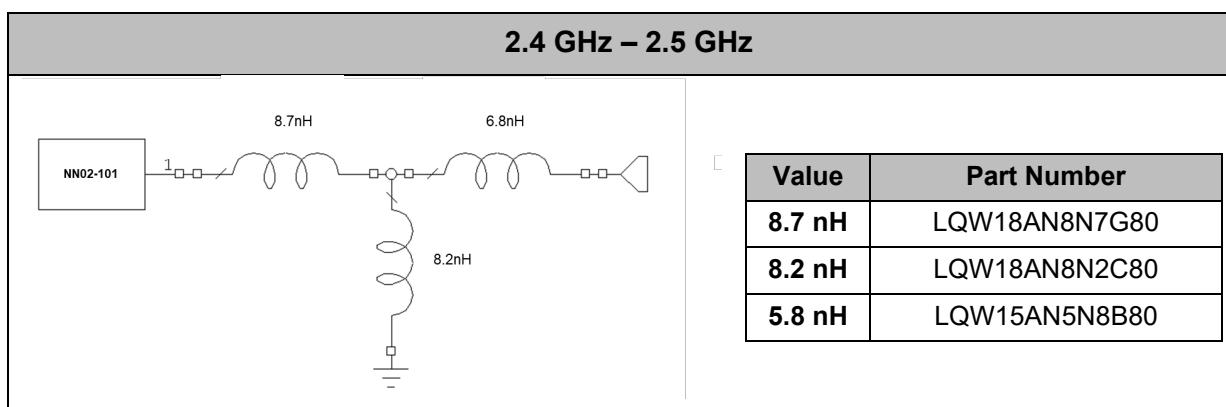

Figure 2 – Matching network implemented on the Evaluation Board (Figure 1) for covering Bluetooth from 2.4GHz to 2.5GHz.
For an optimal result, the use of high-quality factor (Q) and tight tolerance components is highly recommended (e.g., Murata components with part numbers as shown in Figure 2). The antenna performance is always conditioned by its operating environment meaning that differences in the device, including differences in printed circuit board sizes, components near the antenna, displays, batteries, covers, connectors, etc. affect the antenna performance. Accordingly, placing pads compatible with 0402 and 0603 SMD components for a matching network as close as possible to the feeding point of the antenna element is highly recommendable. It is also recommendable to do this in the ground plane area, not in the clearance area. By tuning the matching network in your final design after your final surrounding components are in place (batteries, displays, covers, etc.) you will be able to optimize the antenna performance without changing the antenna part or the design.